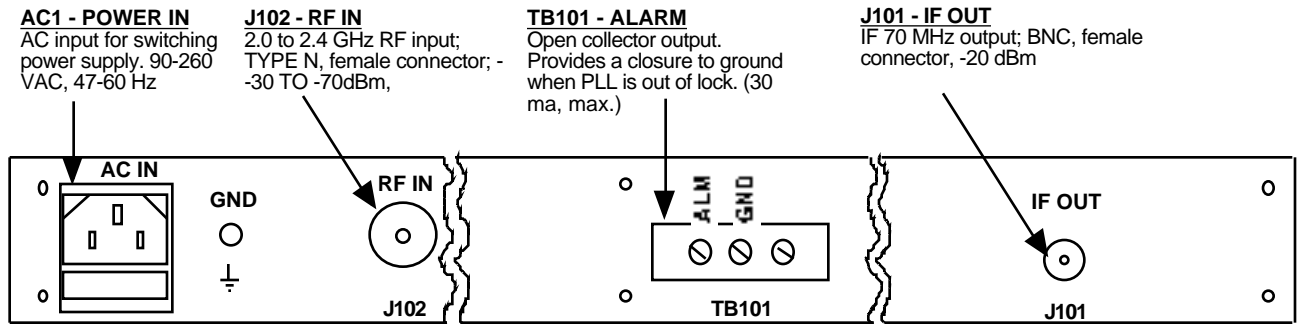

FIGURE 2.2 2089-24A Rear Panel I/Os and Level Control
2.2 Rear Panel Input/Output Signals - Figure 2.2 shows the input and output connectors located on the rear panel.
- 1.) Connect a -30 dBm to -70 dBm signal to RF In, J102 (Figure 2.2).
- 3.) Connect the IF OUT, J101, to the external equipment (Figure 2.2).
- 5.) Connect 90 - 260 VAC, 47 - 63 Hz to AC1 on the back panel (Figure 2.2).